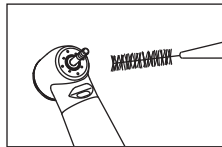

Fig. 13
- 6) If debris still does not come off, use the brush supplied, and clean the holes. (Fig. 13)